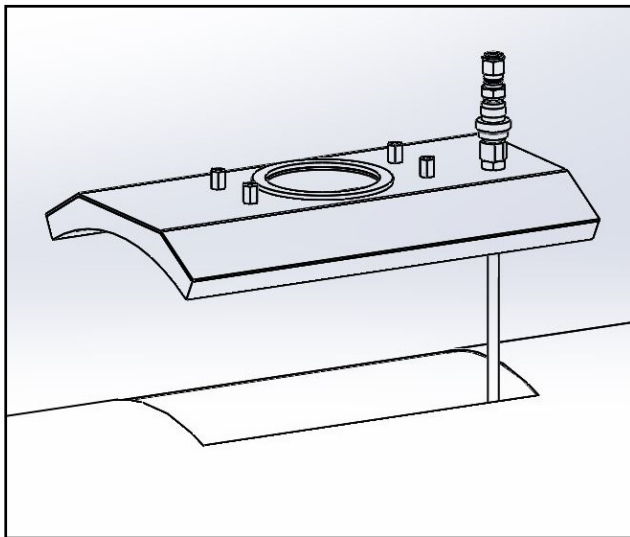

Figure 8
- (5) Remove the base assembly from the carton and align the cut out in the rectangular gasket underneath the base plate with the duct cutout, as shown in Figure 8.